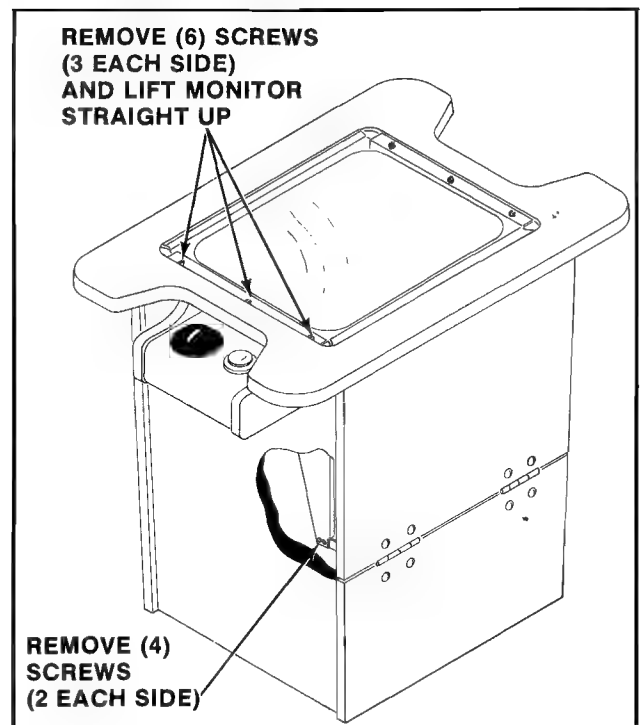

Figure 23 Removing monitor — Cocktail game
- Remove the screws holding the T.V. monitor chassis to the "L" brackets by the door hinge(s). See Figure 23.
- Remove the screws which secure the T.V. monitor mounting brackets to the edges of the slot cut in the table top. See Figure 23.